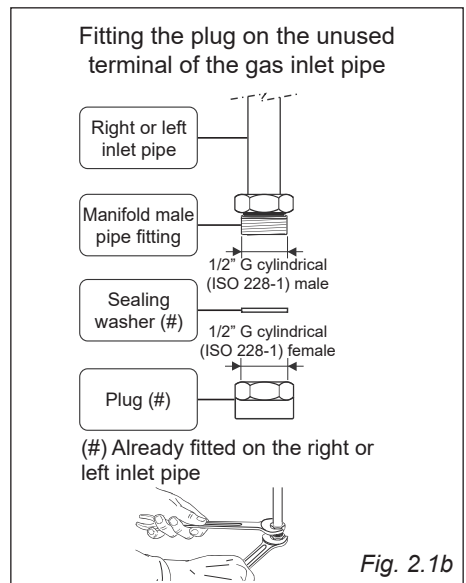

Fig. 2.1b
- The unused inlet pipe must be closed off with the plug and sealing washer supplied (fig. 2.1b).